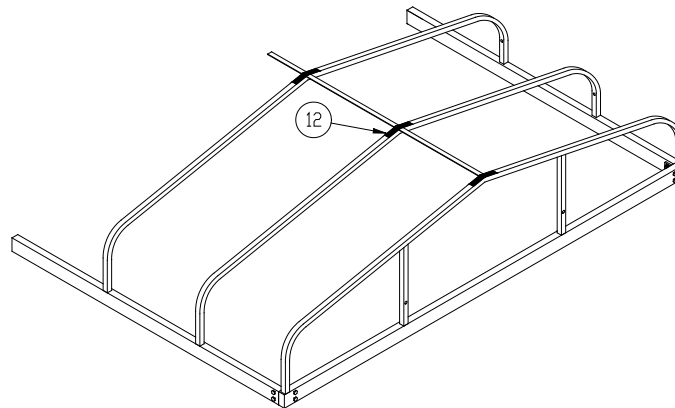

**Figure 2-6.**
9. Refer to **Figure 2-6**. Assemble two end-center band (6) and one mid-center band (7) on top of the ribs with hardware shown. This will provide a uniform lay of the fabric. At center band, splice connections that do not meet at a rib. Use shorter hardware shown.